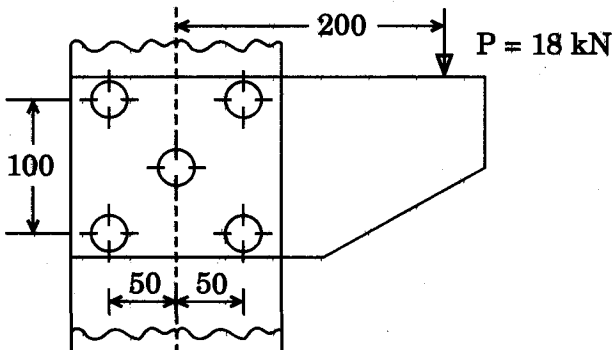

Figure 1
- (b) Figure 1 shows the riveted joint with an eccentric load of 18 kN. The rivets are 25 mm in diameter. Find the maximum shear stress induced in the rivet. If the thickness of the plate is 15 mm, determine the crushing stress on the rivet. 6+8